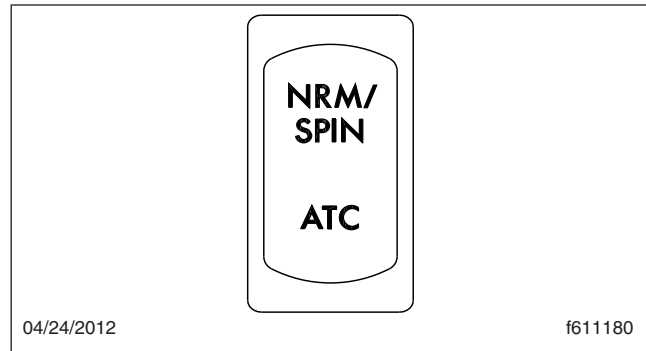

Fig. 12.4, ATC Switch
ATC includes a deep snow and mud option to increase available traction on extra-soft surfaces like snow, mud, or gravel. A rocker switch labeled ATC is located on the dash. See Fig. 12.4. Pressing the switch temporarily allows more drive wheel spin. Activating the deep snow and mud option causes the WHEEL SPIN lamp to flash. Pressing the switch again cycles the system back to normal operation.
- Remove your feet from both the clutch and throttle pedals. Press the dash-mounted ENG BRK switch to toggle the engine brake ON. See Fig. 12.4.